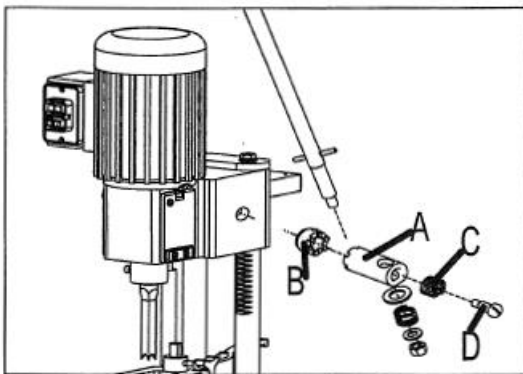

Fig. 2
See Fig. 2. Assemble hub of handle assembly (A) to end of pinion shaft (B) and fasten the handle to the pinion shaft using special screw (C) and spring (D).